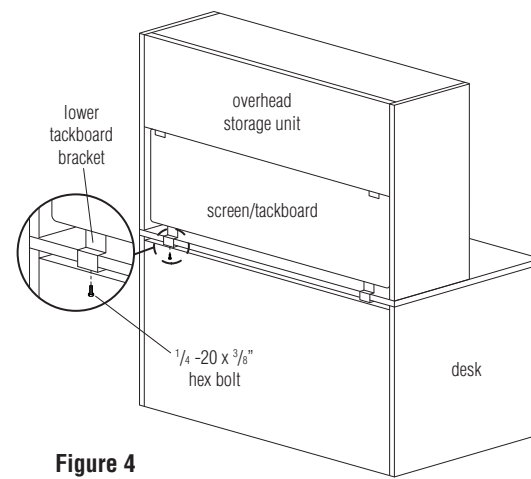

Figure 4
2. Slide the screen/tackboard up into the tackboard top brackets and fit the lower tackboard brackets of the screen/tackboard to the worksurface (Figure 4).